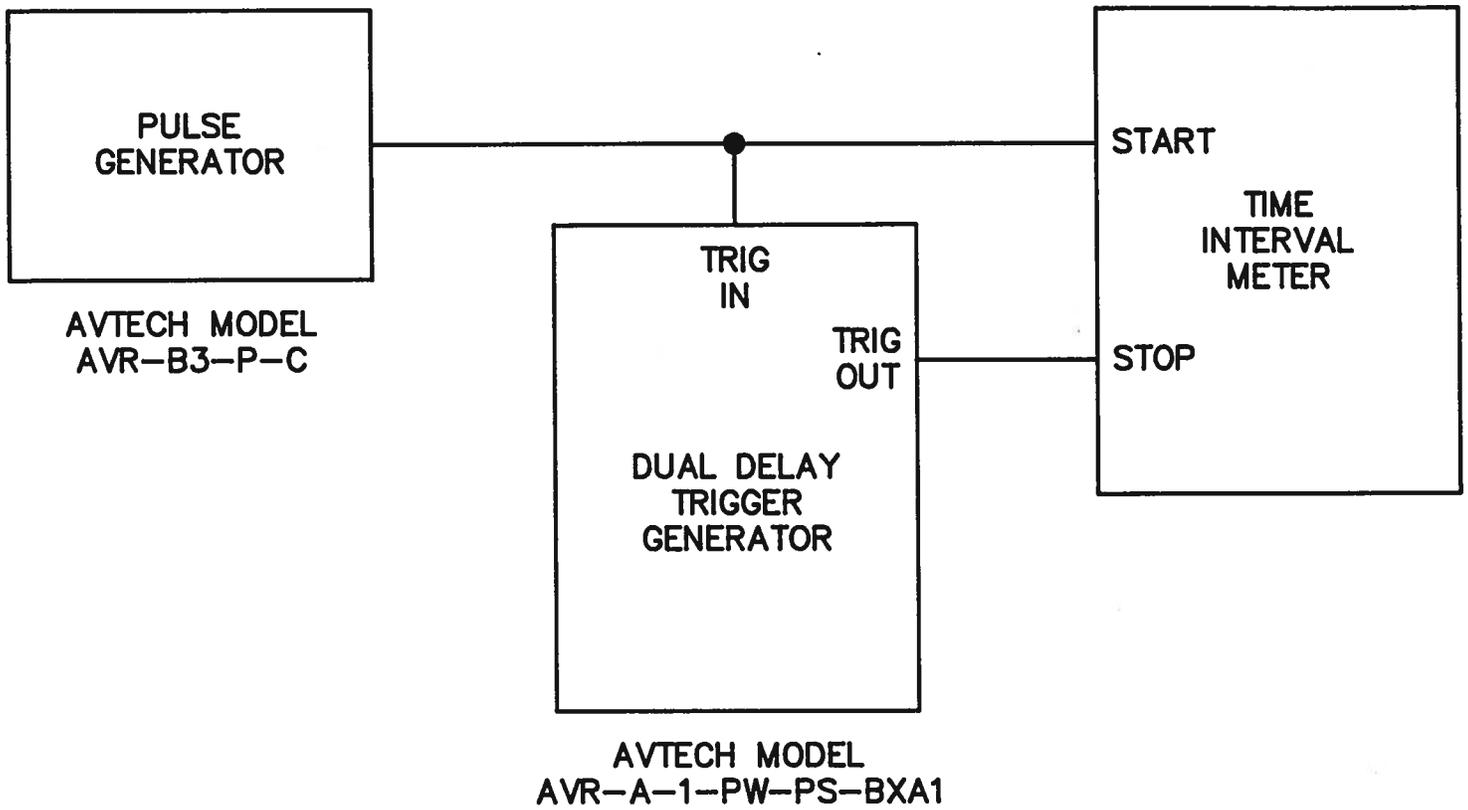

Figure 2 - Delay Measurement Setup
4. Then, for all modes, set the front-panel delay controls to the appropriate levels. To obtain a precise delay, use the setup of Figure 2, and adjust the delay controls until the Time Interval Meter displays the correct delay. Both output pulse generators will trigger on the earlier delay setting for simultaneous input pulses.
Use a Time Interval Meter (TIM) to measure the delay periods (see Figure 2). Connect a cable from one output trigger input to the TIM start input. Connect a second cable from the trigger output to the TIM stop input. Adjust the appropriate frontpanel delay potentiometer for $30\mu\text{s}$ as indicated by the TIM. The dial on the delay potentiometer should read 30 ± 0.3 . If it does not, remove the dial, set it to 30.0 and reinstall it. Repeat the procedure for the other delay generator. (The set delay can be read directly off the dial. It reads from approximately 0.3us to 100.3us.)